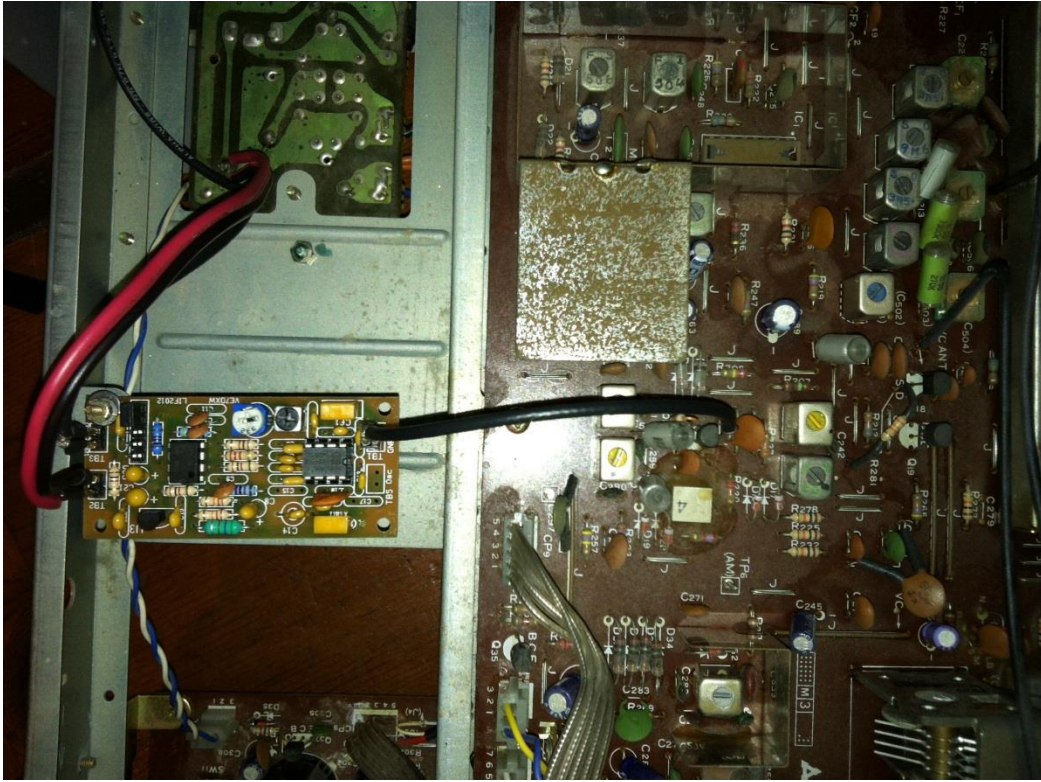

Figure 1 – Top view
2. Power Connection (Figures 1, 2)